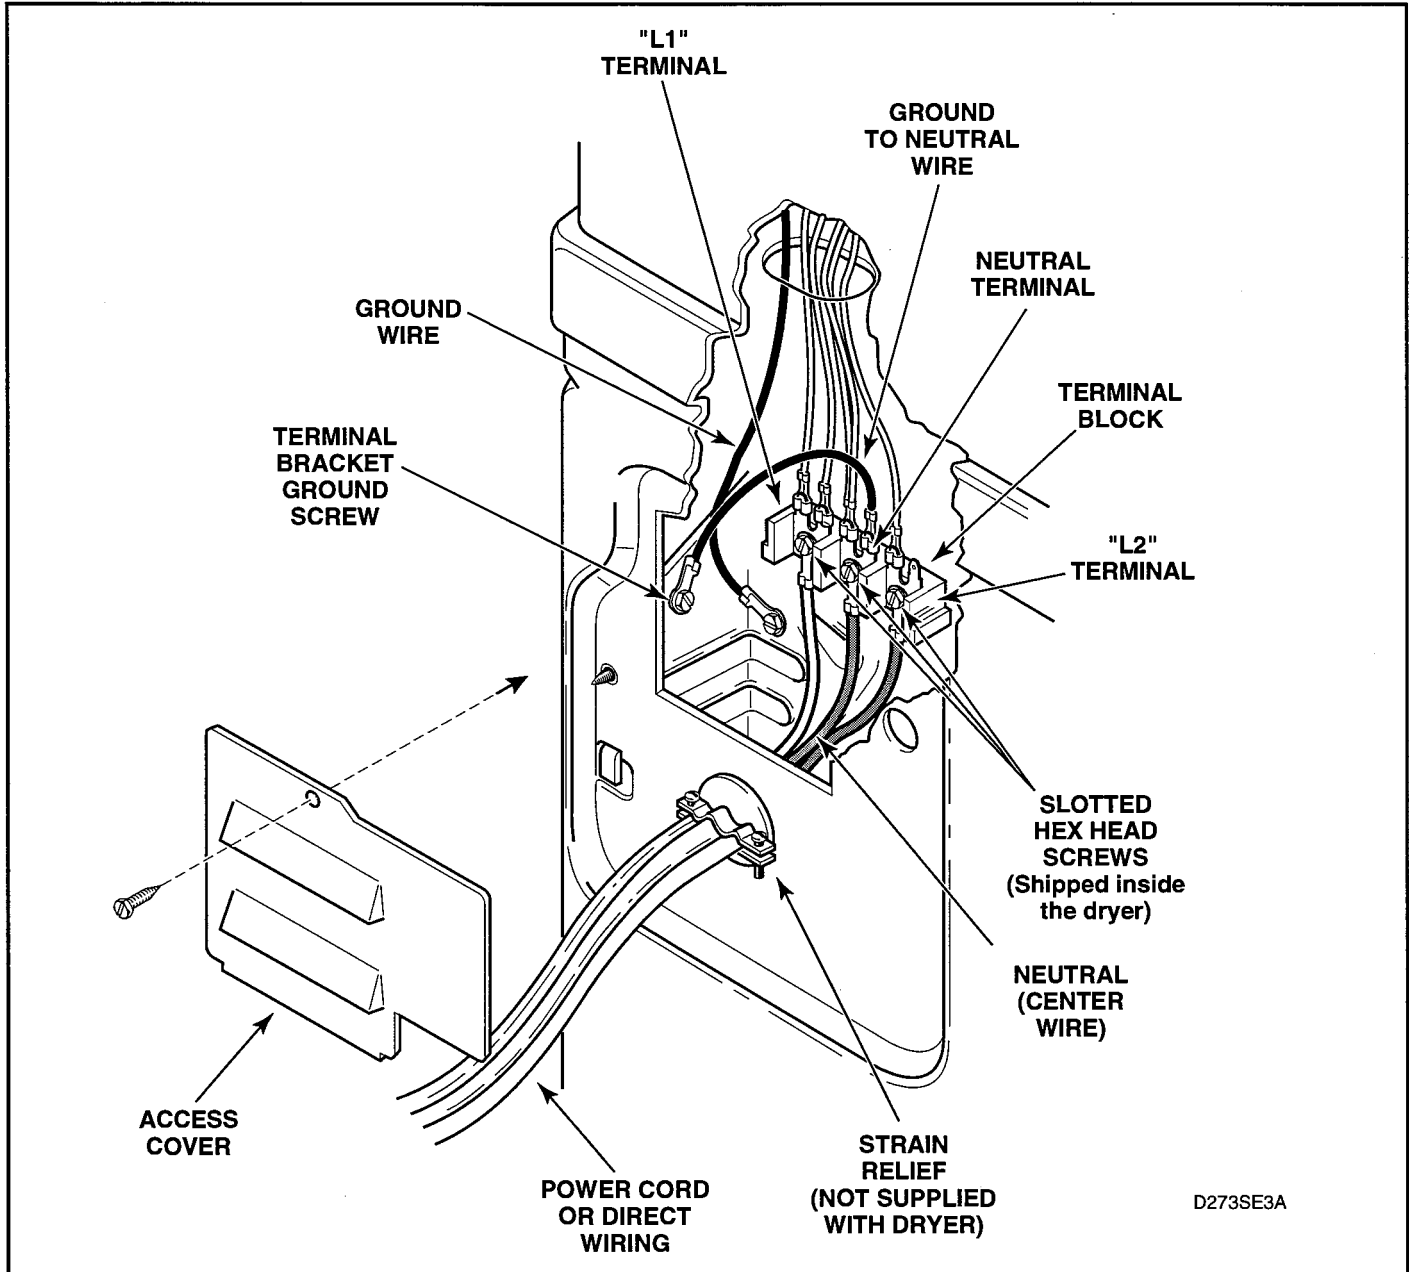

Figure 9-1
- The method of wiring the dryer is optional and subject to local code requirements. See figures 9-1 and 9-3.